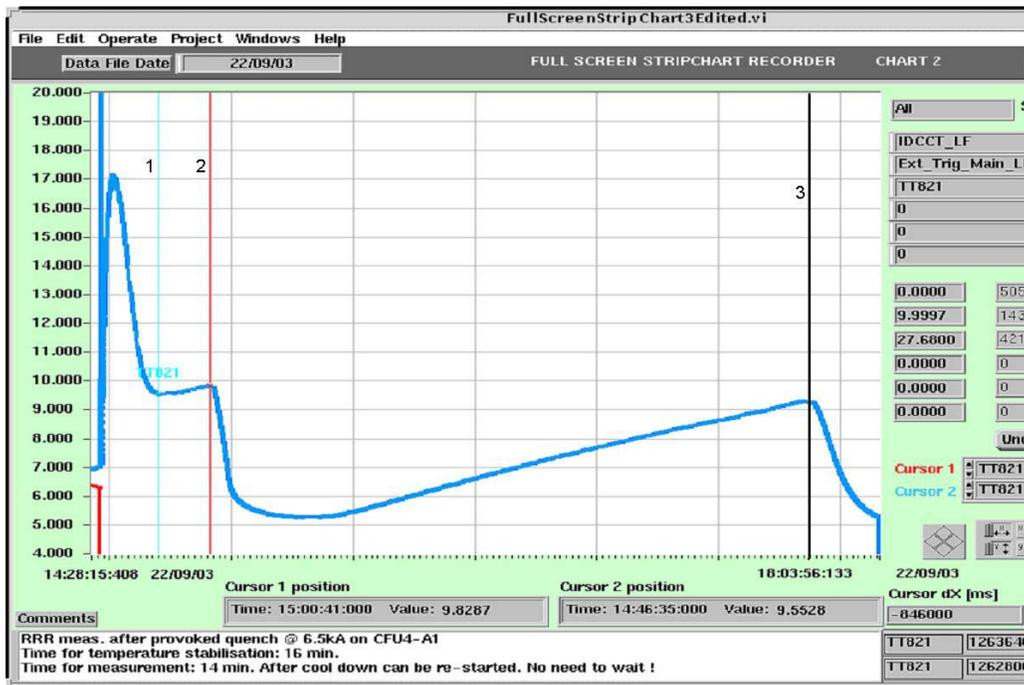

Figure 1 : The resistive transition has taken place some where between cursors 1 and 2 .No point in warming up the magnet again up to cursor 3 .
**3.2.1 Discussion on Figure 1** : This is one of the best case scenarios where the temperature of the magnet goes below transition temperature ( cursor 1 ) and you are able to start recording of voltages from cursor 1 onwards .At cursor 1 the resistive voltages have not yet appeared . The recording of the voltages continue up to cursor 2 , during which the resistive transition sets in. After reaching cursor 2 the magnet should be simply cooled down to 1.9 K or 4.4 K as desired and the recording can be stopped at cursor 2 . .There is no point in warming up the magnet again ( like shown in the figure 1 ) up to cursor 3 since we have already completed the job at cursor 2.